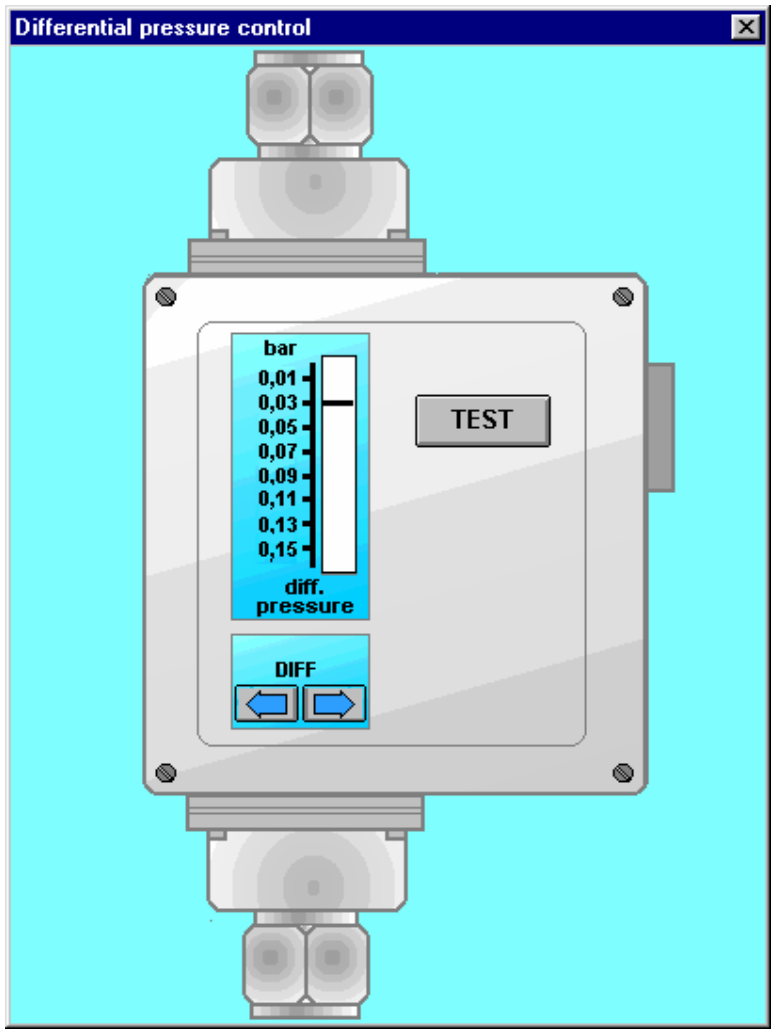

Fig. 6 Differential pressure control diagram /DPC/
- differential pressure control diagram DPC /fig.6/,